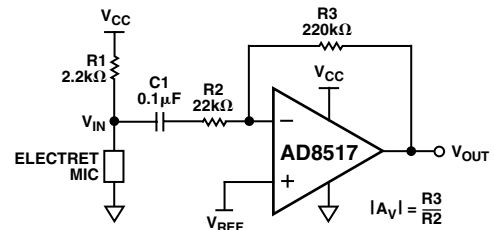

Figure 28. A Microphone Preamplifier
The AD8517 is ideal to use as a microphone preamplifier. Figure 28 shows this implementation.
Figure 28 illustrates a 1.8 V transmit/receive telephone line interface for 600 Ω transmission systems. It allows full duplex transmission of signals on a transformer-coupled 600 Ω line in a differential manner. Amplifier A1 provides gain that can be adjusted to meet the modem output drive requirements. Both A1 and A2 are configured to apply the largest possible signal on a single supply to the transformer. Amplifier A3 is configured as a difference amplifier for two reasons: (1) It prevents the transmit signal from interfering with the receive signal and (2) it extracts the receive signal from the transmission line for amplification by A4. A4's gain can be adjusted in the same manner as A1's to meet the modem's input signal requirements. Standard resistor values permit the use of SIP (Single In-line Package) format resistor arrays. Couple this with the AD8517/AD8527's 5-lead SOT-23, 8-lead MSOP, and 8-lead SOIC footprint and this circuit offers a compact solution.